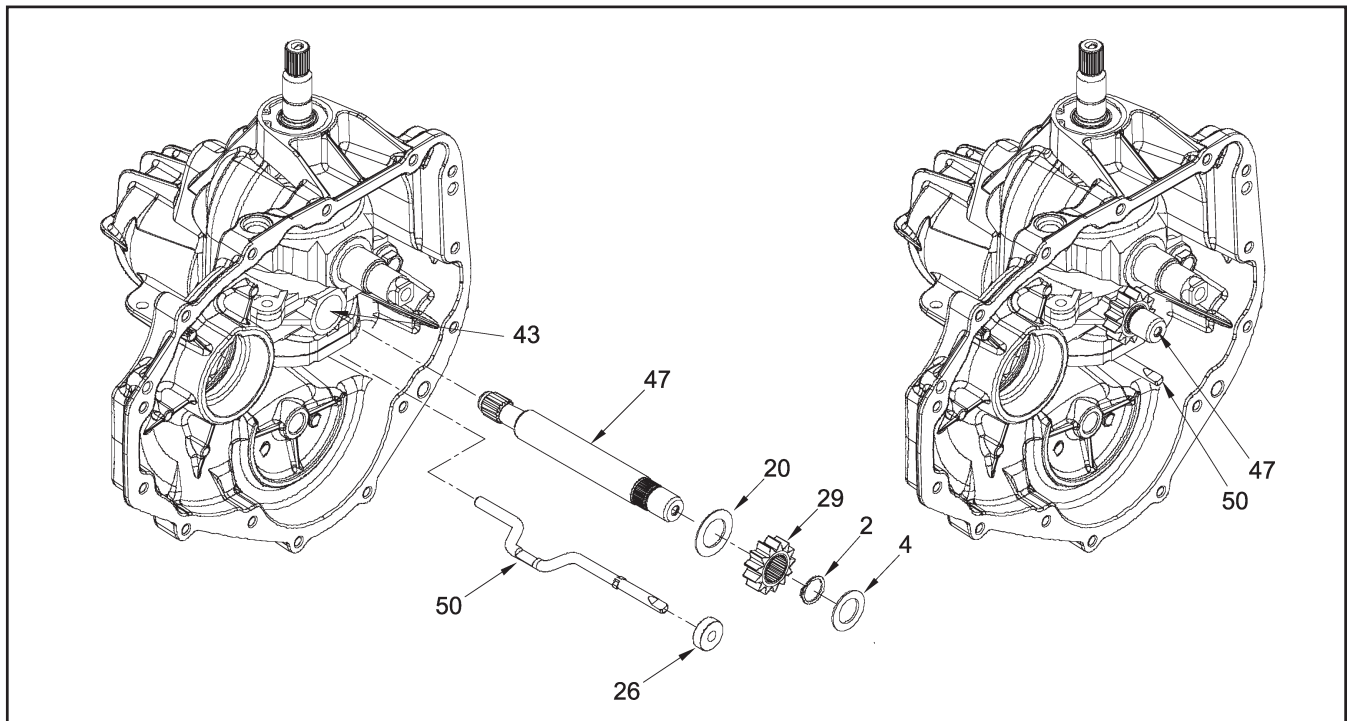
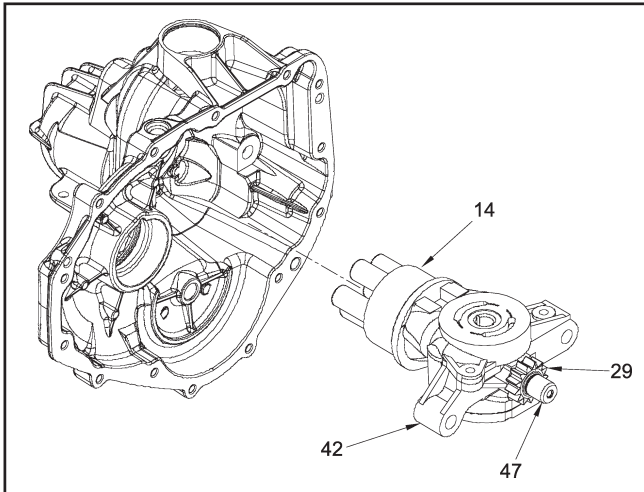

Figure 9. Motor Shaft & Bypass Rod Assemblies
Figure 19
Refer to Figure 9.
1. (See Figure 19) Turn the housing (43) so the thrust bearing cavity is facing up. This will assist in the installation of the thrust bearing assembly (12) keeping it in the bearing cavity during installation of the center section assembly.
2. Insert the thrust bearing (12) in the housing (43). NOTE: Place the thin race of the bearing towards the housing bearing cavity. The thick race must face the pistons.
4. Install the check plugs (45), in their correct location, into the center section (42). Tighten the check plugs according to Table 5.
5. Install the bypass spring (33) into the filter base (31).
6. Install the deflector (32) into the underside of the filter (30).
7. Install the bypass actuator (25) into the underside of the deflector (32).
8. Hold the stem of the bypass actuator (25) from the top of the filter (30) to retain the deflector (32) and bypass actuator (25) in place when snapping the filter (30) onto the filter base (31). NOTE: Filter installation is best accomplished by using a spacer as an assembly tool over each of the (4) snaps while lightly tapping with a rubber mallet. Excessive force will result in damage to the plastic filter components.
9. (See Figures 9 & 19) Install the motor shaft (47), pinion gear (29) and flat washers (4 & 20) into the center section.
10. Assemble the motor block assembly (14) onto the motor shaft (47).
11. (See Figure 19) Install the motor shaft, center section and motor block assembly so that the motor block pistons contact the thrust bearing race. NOTE: Hold in place and insure all pistons are still positioned correctly in the cylinder bore by confirming spring bias against the center section.
12. (See Figure 15) After applying thread adhesive, insert the center section mounting screws (5) while holding downward pressure on the center section assembly (42, Figure 19).
13. Tighten the center section mounting screws (5) to the proper torque. Refer to Table 5.